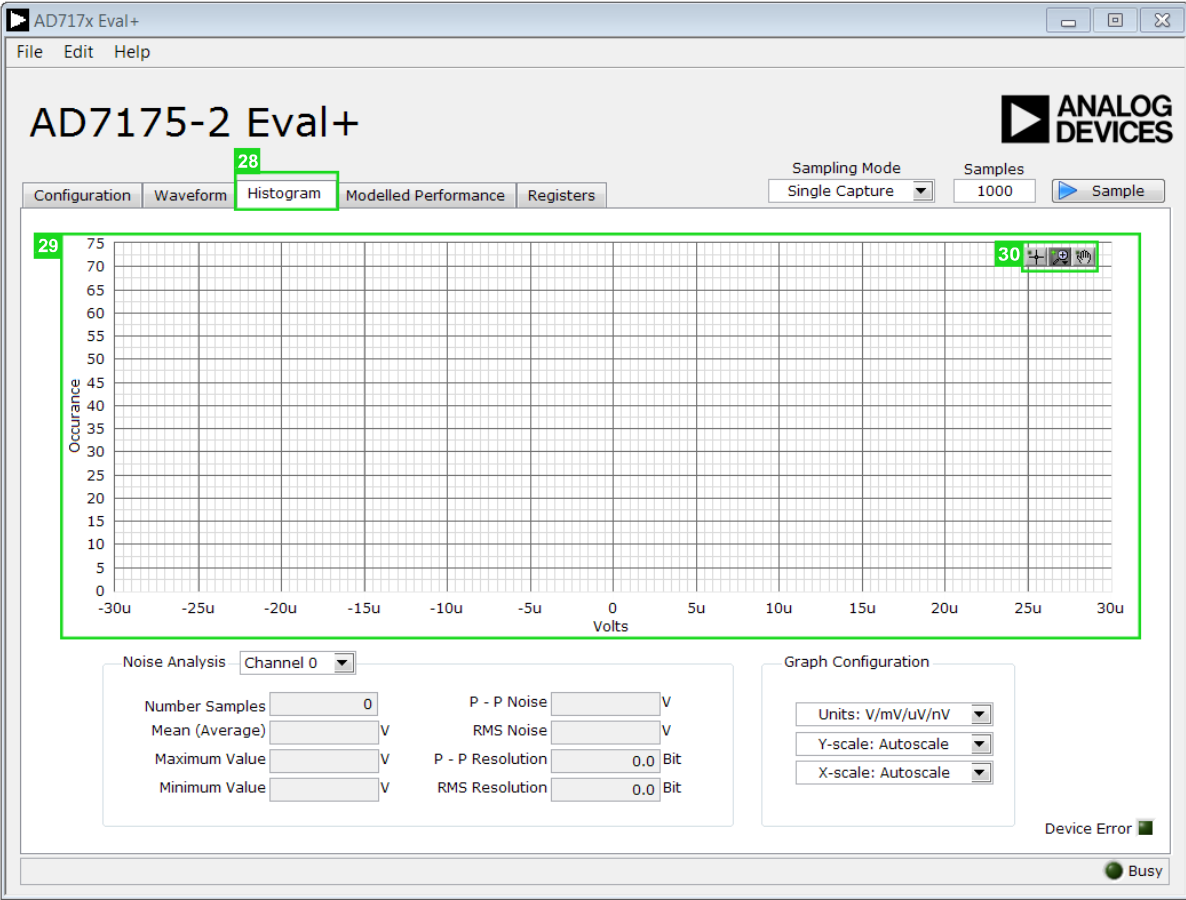

Figure 19. **Histogram** Tab of the **AD7175-2 Eval+** Software
Figure 19 shows the **Histogram** tab of the AD717x Eval+ Software.
The data histogram graph (29) shows the number of times each sample of the ADC output occurs. The control toolbar (30) in the histogram graph allows the user to zoom in on the data (see Figure 19). Click the x-axis and y-axis to change the scales on the graph (see Figure 19).